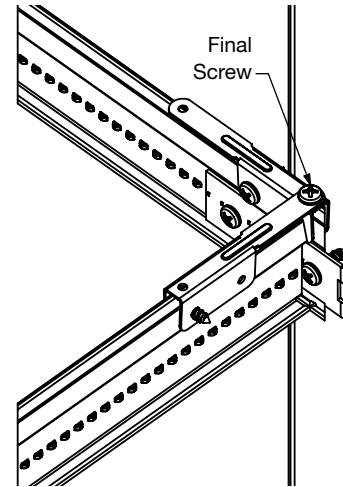

Fig 41
- Once the PAC has been screw-attached to the XM Cross Tee, connect it to the first installed PAC by inserting a screw through the aligning holes on the top (**Fig 41**).